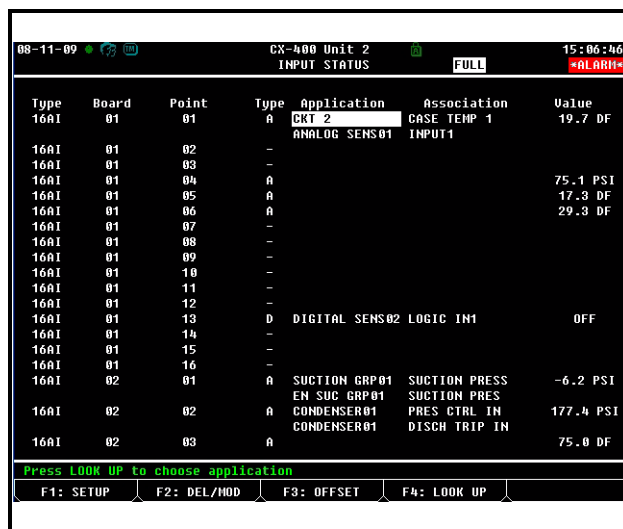

Figure 9-4 - Input Status Screen
Open the Analog Input screen by selecting an Analog (**A**) input from the Input Status screen **Figure 9-4** and pressing **F1** (SETUP).
The Analog Input screen **Figure 9-4** is where sensor types, units, and default values are specified for analog input points.
Open the Digital Input screen by selecting a Digital (D) input from the Input Status screen **Figure 9-4** and pressing **F1** (SETUP).